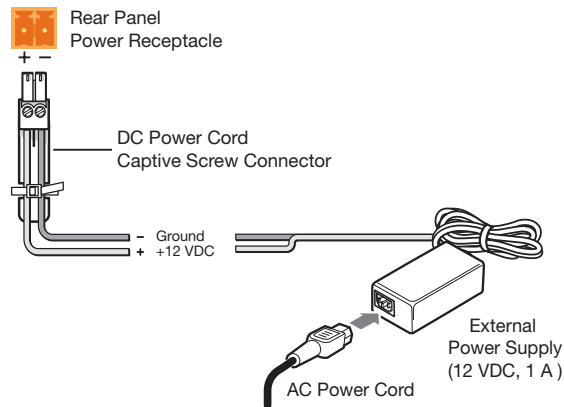

Figure 5. 12 VDC Power Connection to EDID 101H
1. Plug the HDMI cable into the panel connection (see figure 5).